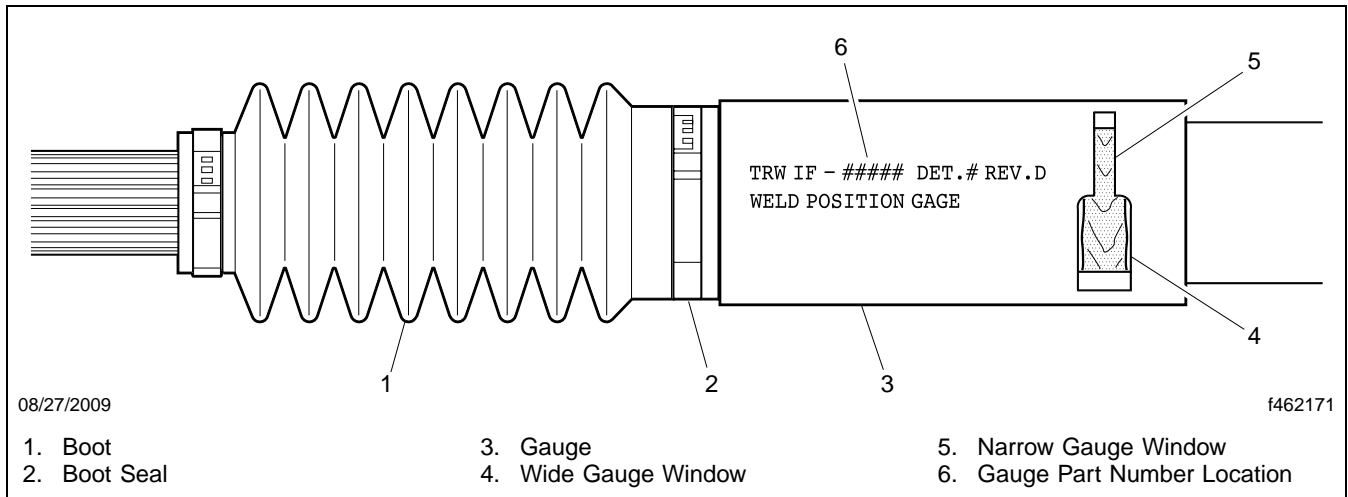

Fig. 2, TRW Weld Position Gauge Placement
6. Inspect the intermediate shaft using the TRW weld position gauge specified in **Table 4**. (The weld inspection gauge was shipped directly to dealers by TRW.) Place the end of the gauge against the base of the boot so that the gauge body covers the column part number. See **Fig. 2**.